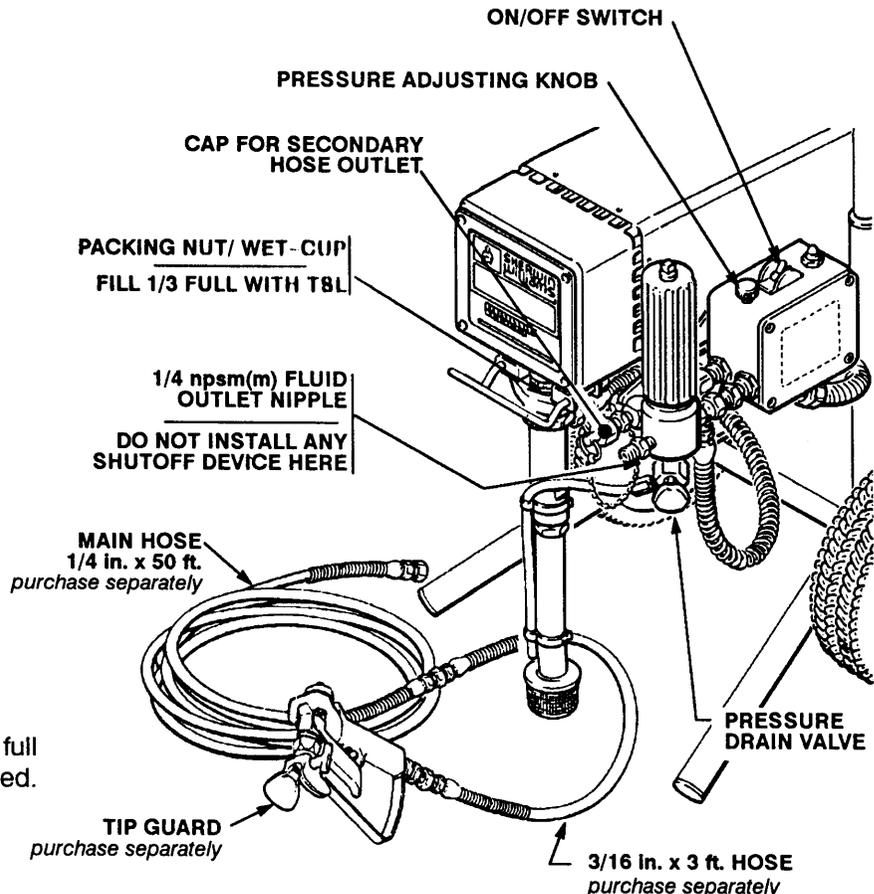

Fig 1
3. Never install any shutoff device between the filter and the main hose. See Fig 1.